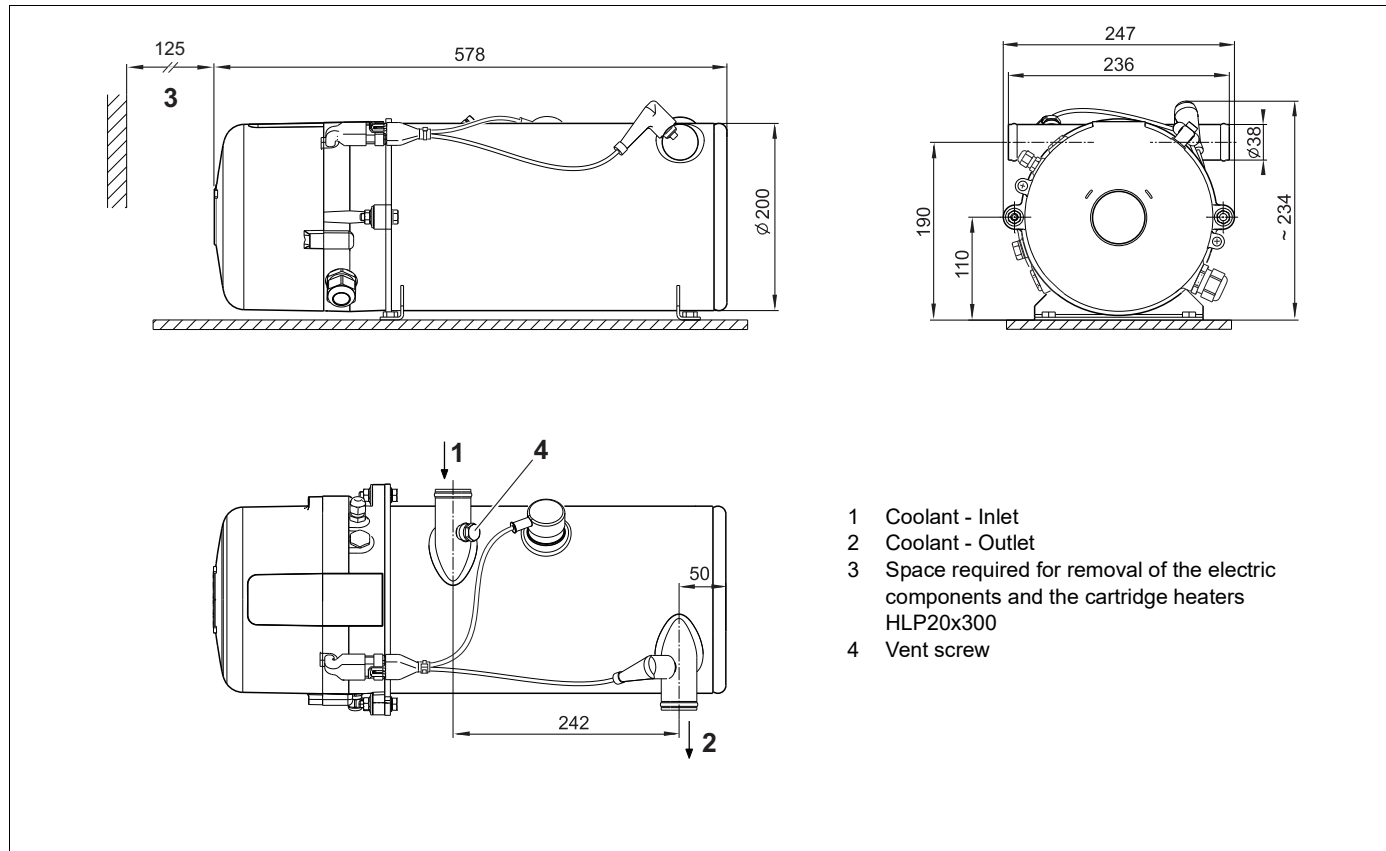

Figure 9: Dimensions of the heating appliance Thermo DC
The dimensions of the heating appliance, the permitted installation locations, and the hole pattern for the fastening can be found in figures 9 and 10.
The heating appliance is connected to the vehicle's cooling system according to figure 9. The volume of coolant fluid present in the circuit must be at least 25 liters. The water in the heating circuit of the heating appliance must contain at least 30 to 60% of a branded antifreeze agent. An up-to-date list of Valeo recommended anti-freeze agents can be found on the Valeo website.
When installing the electric heater the direction of the flow of the cooling water in the circuit is to be considered (see figure 9).
For that the additional venting option via the vent screw item 4, figure 9 is to be used after the system has been filled and the pump has been switched on.